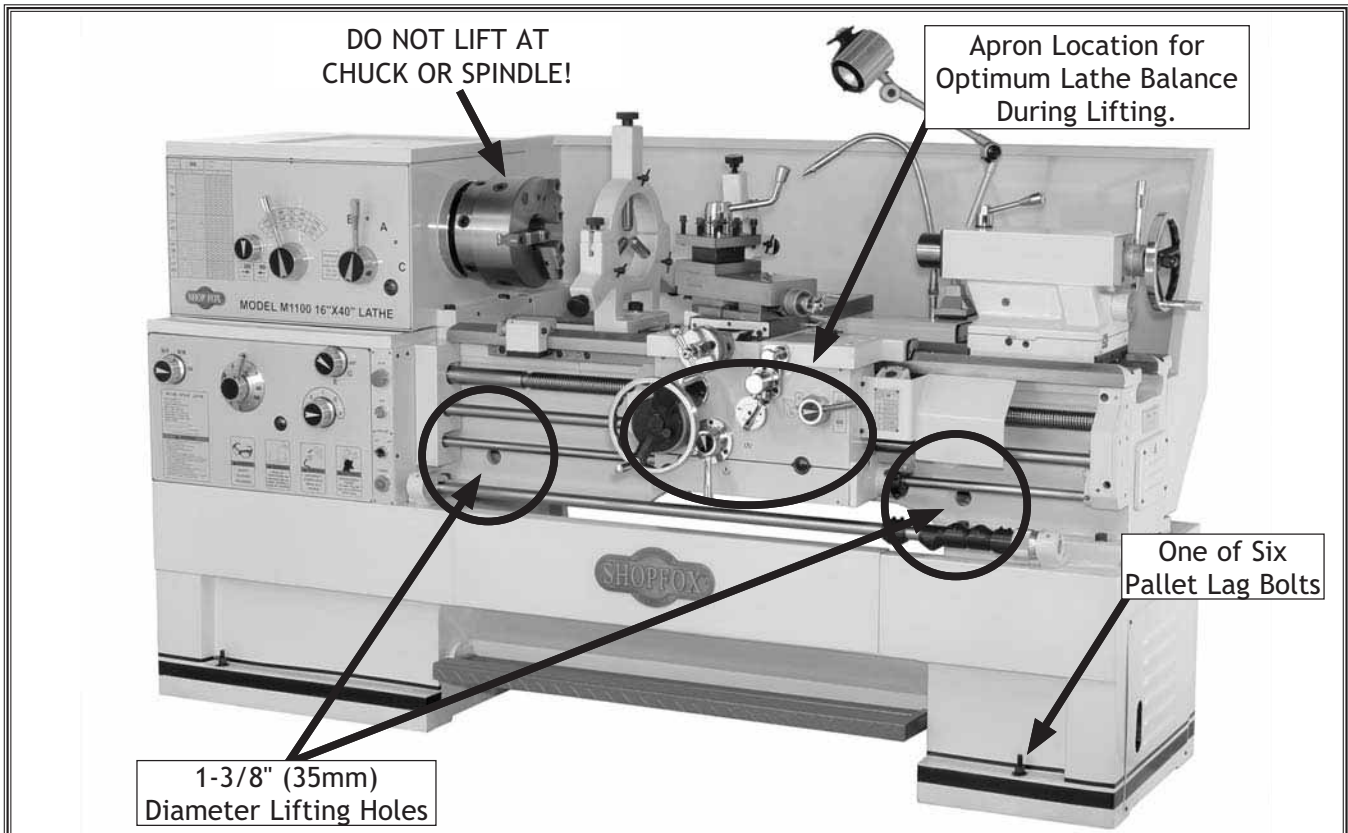

Figure 10. Lifting rod locations.
3. Disassemble the crate, and unbolt the lathe from the six pallet lag bolts (**Figure 10**).
4. Insert two lifting rods (not included) that can hold the weight of the lathe into the lifting holes, and make sure the apron is approximately in the center of the bedways as shown in **Figure 10**.